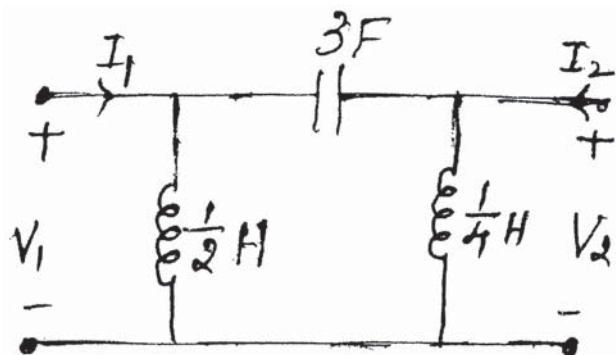

Fig. 4
- b) What is a residue condition ? Show that it is valid for the network shown in Fig. 4. 6